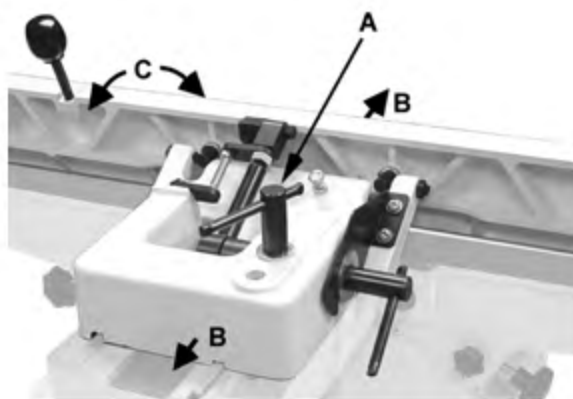

Figure 8-1
The fence can be moved forward or backward across the width of the table (B, Fig. 8-1). It also tilts up to 45 degrees forward and has a positive stop at 90 degrees.
1. Loosen the locking handle (A, Fig. 8-1).
2. Push the entire fence assembly (B, Fig. 8-1) to the desired position, and tighten the locking handle.